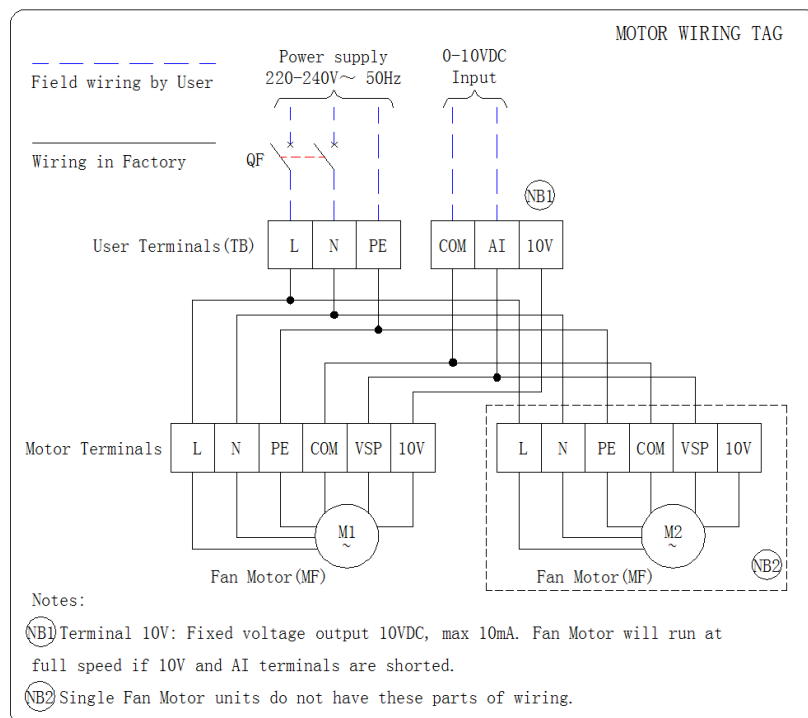

Fig 1
1. The dashed lines are wiring provided by customer and it should be connected according to Fig.1. Please ensure that all connections are correct and tightened.